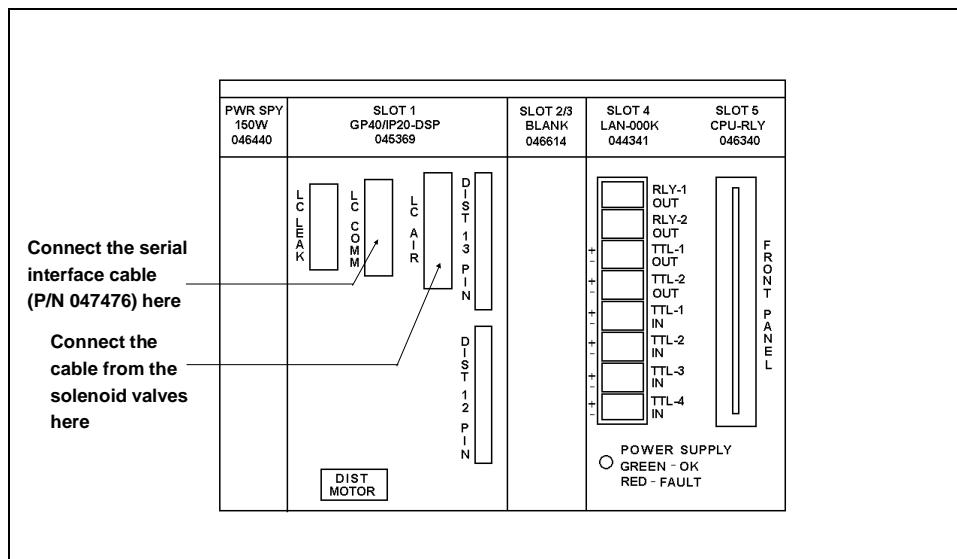
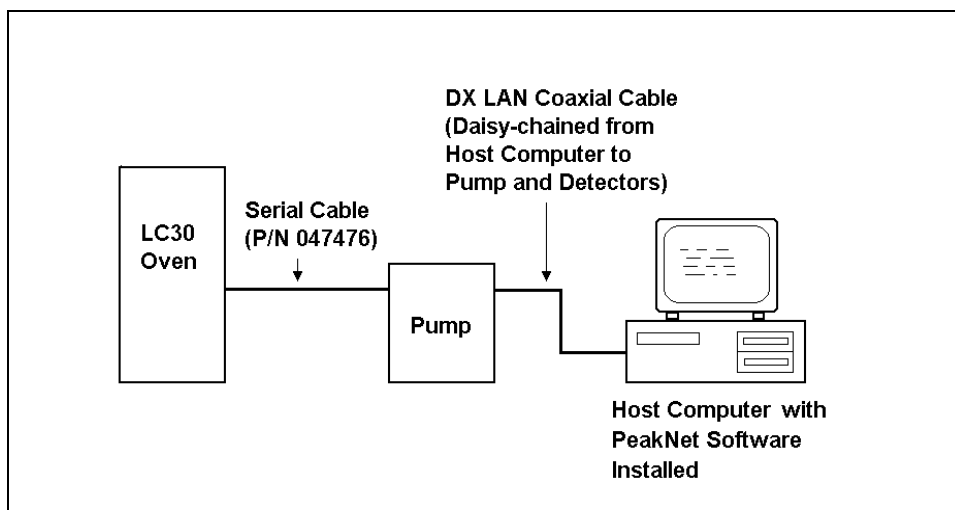

Figure B-13. GP40/IP20 Electronic Chassis
Figure B-14. LC30 Remote Interface
2. Connect the other end of the cable to the **LC COMM** connector on the pump electronic chassis (see Figure B-13). A PeakNet workstation, operating through the pump, can then be used for remote control of the LC30 (see Figure B-14).